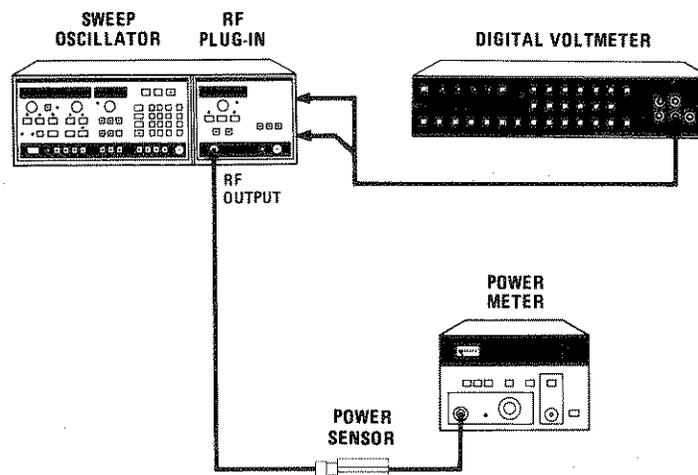

Figure 5-16. ALC Adjustment Test Setup
6. Turn instrument **LINE** power OFF. Remove A4 assembly from the extender board and reinsert A4 directly into the instrument. Turn ON **LINE** power to instrument. Connect power meter sensor to **RF OUTPUT** as shown in Figure 5-16.